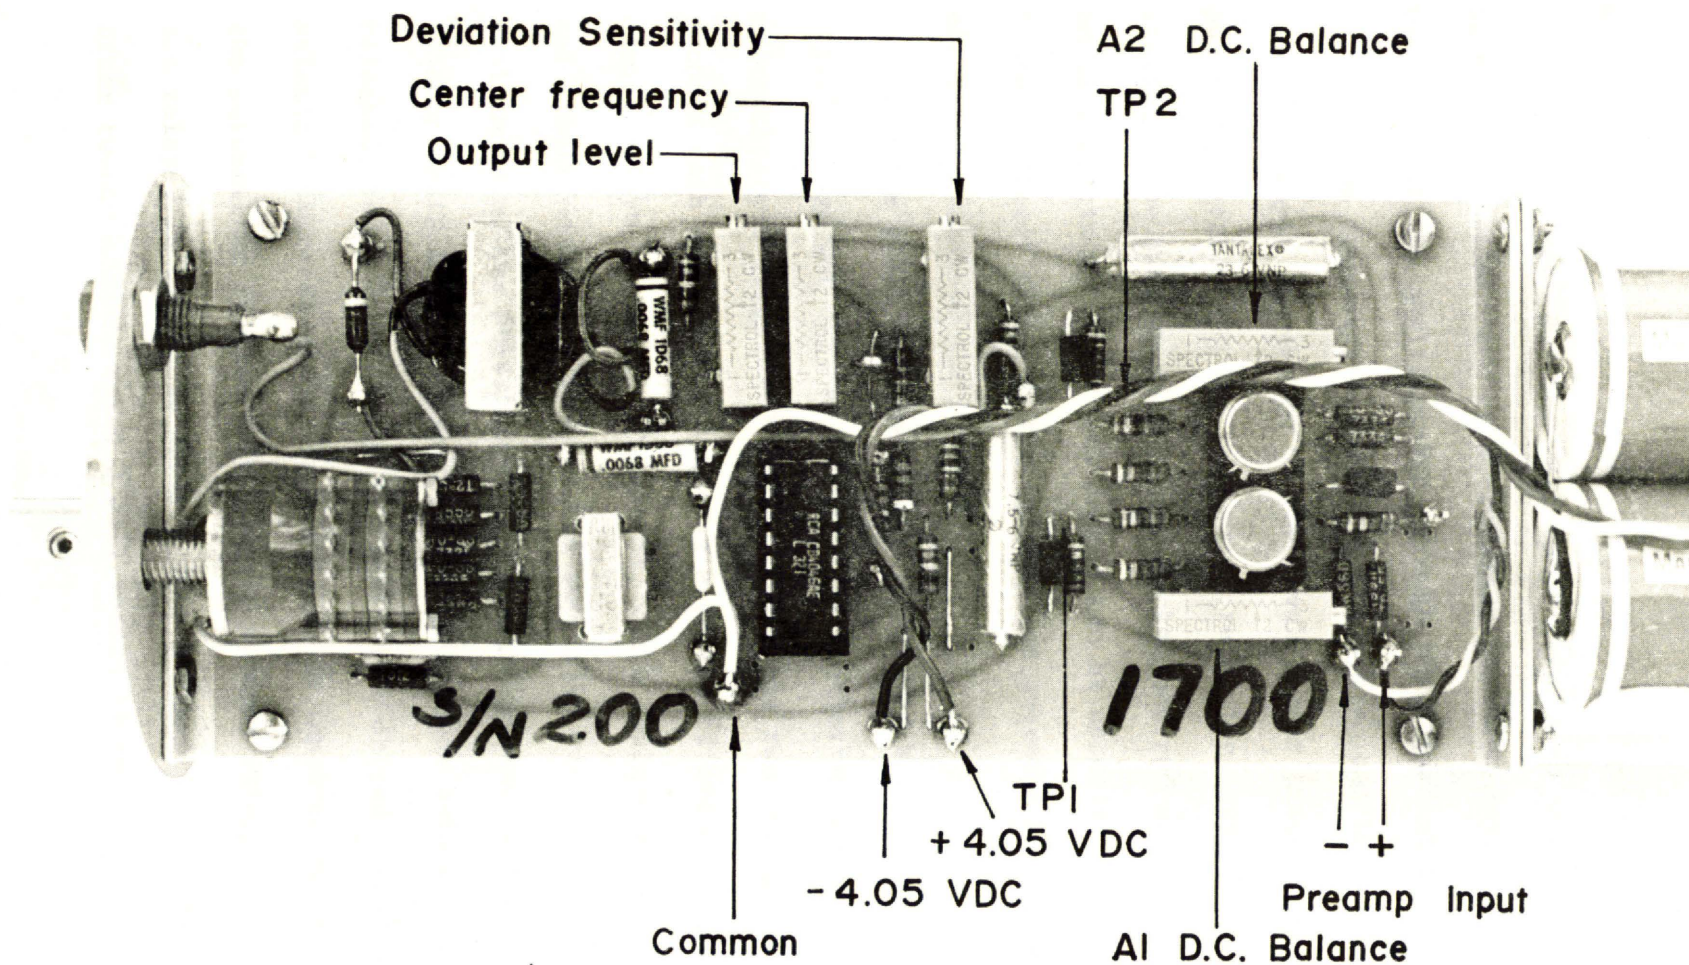

FIGURE 5
The clock portion (Figure 2) provides a square wave output with one negative edge per day, which triggers sequentially a chain of three one-shot multivibrators (Figures 3 and 4), the first two having periods of about eight seconds each and the third having a period of twenty seconds. Multivibrator 1 closes relays 1A and 1B (Figure 5), which applies a current to the seismometer and simultaneously terminates the amplifier with 5.6K ohms, the approximate resistance of the seismometer. The eight-second closure time allows the mass to stop oscillating. About three milliseconds before relays 1A and 1B are released, relay 2 is closed to insert a 20-db pad. This pad attenuates the seismic background noise, resulting in an improved signal-to-noise ratio for the seismometer release test. Eight seconds later relay 2 returns to normal and relay 3 is closed to apply a step voltage to the input of the amplifier-VCO. After twenty seconds relay 3 will return to normal operation for another 24 hours.
1. Trigger test. Connect the seismometer to the proper terminals and make sure the S and T resistors are in place. Monitor the amplifier output MON with an oscilloscope or a recorder. Momentarily connect the Trigger terminal to GND and observe sequence illustrated in Figure 5.